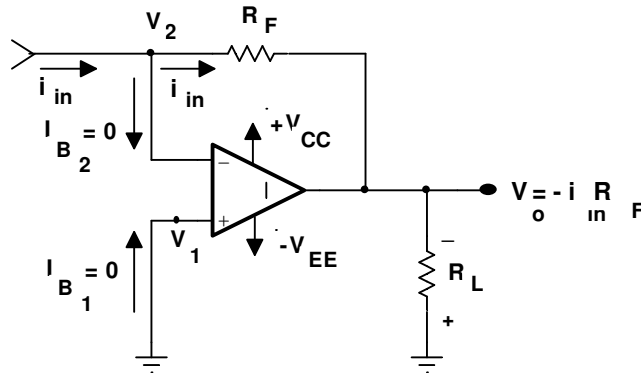

Fig. 83.3
- (iii) **Current-to-Voltage Converter:** The basic inverting operational amplifier is used as current-to-voltage converter, which is shown in fig. 83.3
From basic fundamentals, the output voltage in fig. 83.3 is given by